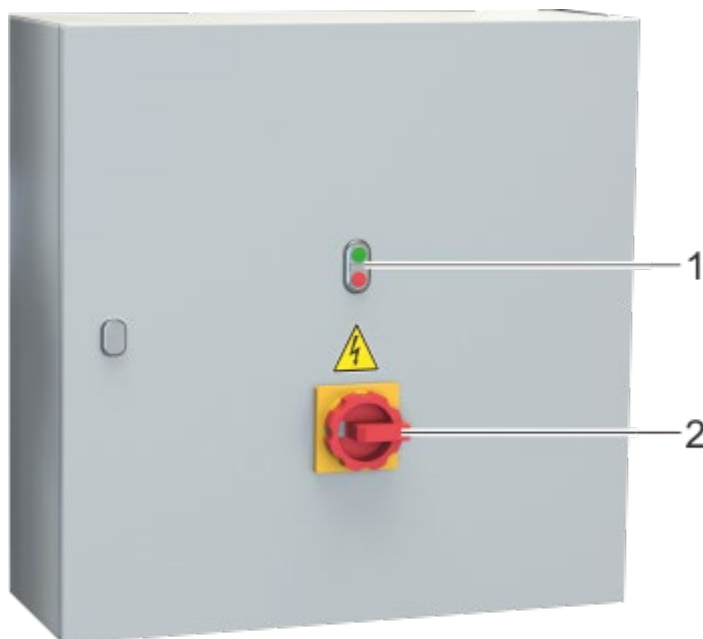

Fig. 10 : Switch and control cabinet
- Set the main switch (fig. 10) to "ON".
- Press the double pushbutton ("I", fig. 10) on the switch and control cabinet.
- Press the double pushbutton ("O", fig. 10) on the switch and control cabinet.
- Set the main switch (fig. 10) to the "OFF" position.